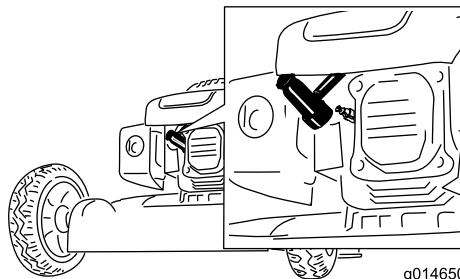

Figure 21
- Disconnect the spark-plug wire from the spark plug (Figure 21).